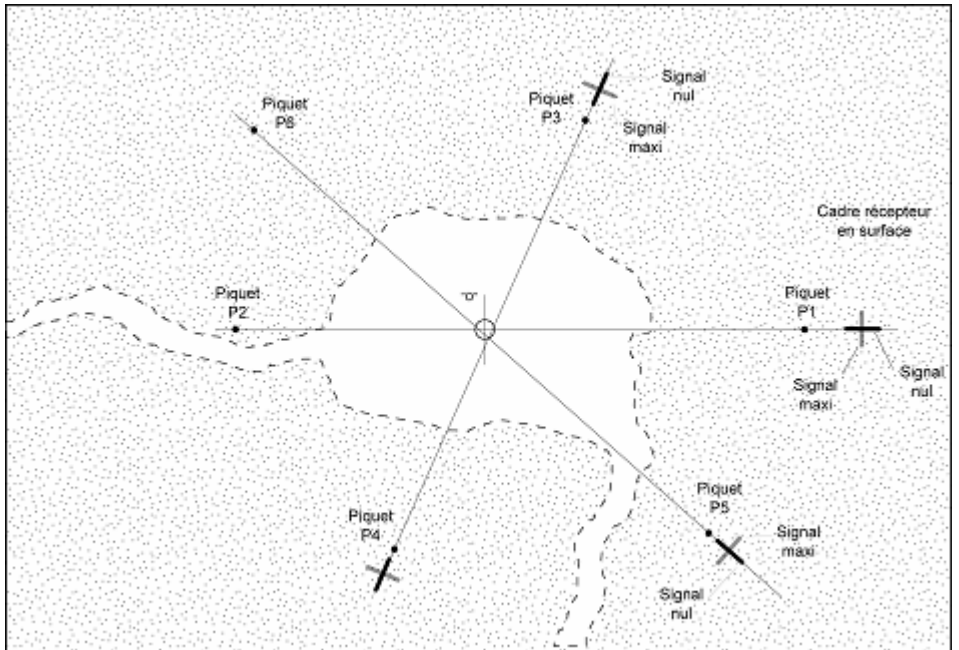

Figure 3
1. Move to the area estimated to be near "ground zero" above the transmitting beacon. As soon as the signal is perceived, move the framework antenna to seek a null signal (figure 3). The signal is null all along the field line. A cord strung between two stakes (P1 and P2) will allow visualization of the field line.